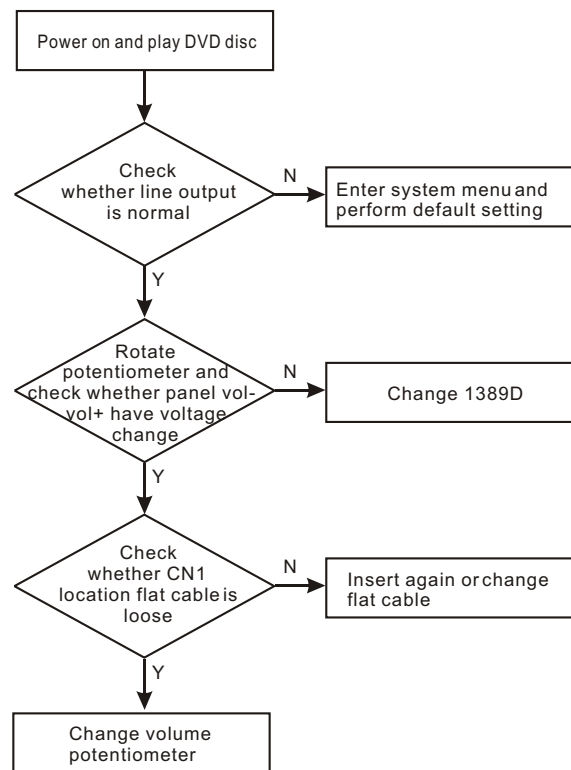

Figure 3.3.2.3 Troubleshooting flow chart for “Power amplifier volume is invalid”
5. Troubleshooting process for “Power not on” is shown in the figure 3.3.2.5: